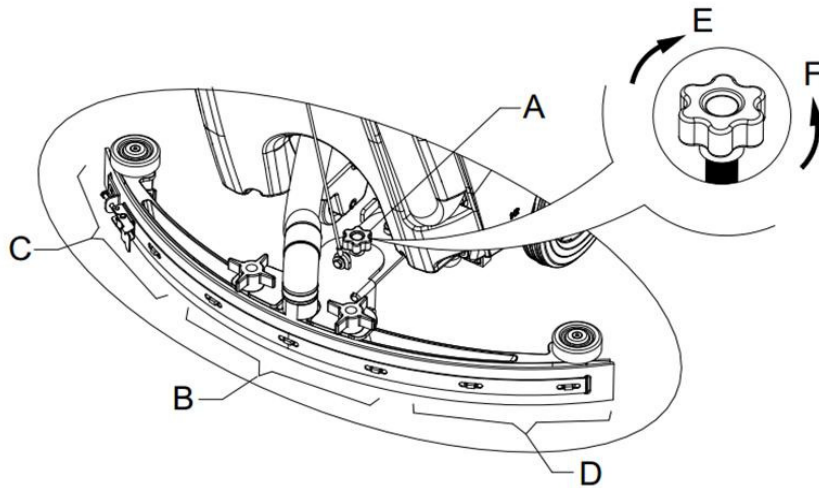

Figure 4
8. Adjust the squeegee through the adjusting handle (A) of the squeegee (Figure 4).